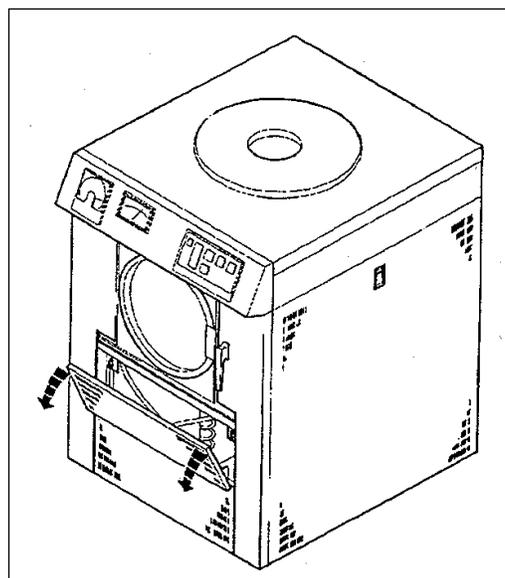

Figure 8 - Open the front panel
5. Pull the handle at the top of the front inspection panel and swing the panel downwards to open it (see Figure 8).